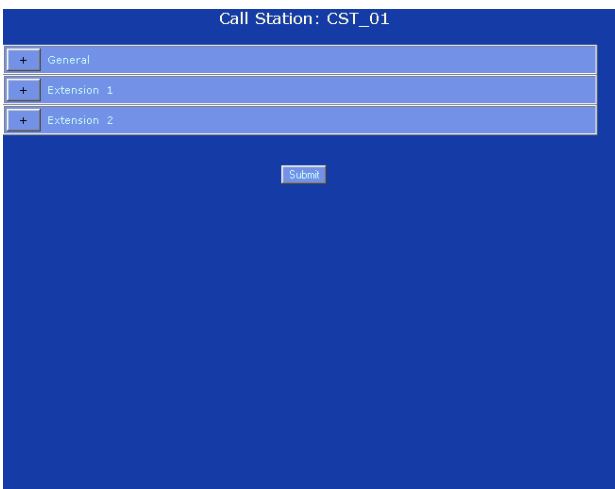

figure 38.53: Local BGM source, step 2
- 2 Click the name of the call station to which the keypad of which the key that must be configured has been connected. A screen similar to the one in figure 38.53 appears in the main frame of the web interface.